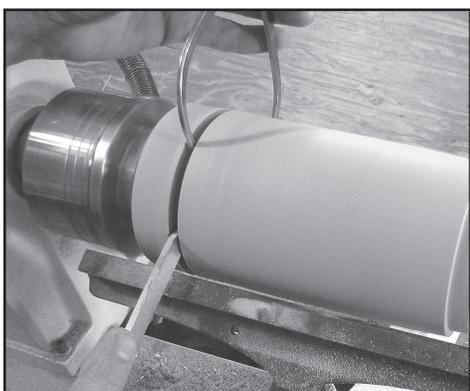

Fig. 14
8. Use a parting tool and calipers to set the outside diameter of the base of the mug. Set the calipers to  $2\frac{5}{8}$ ". **Fig. 14.**